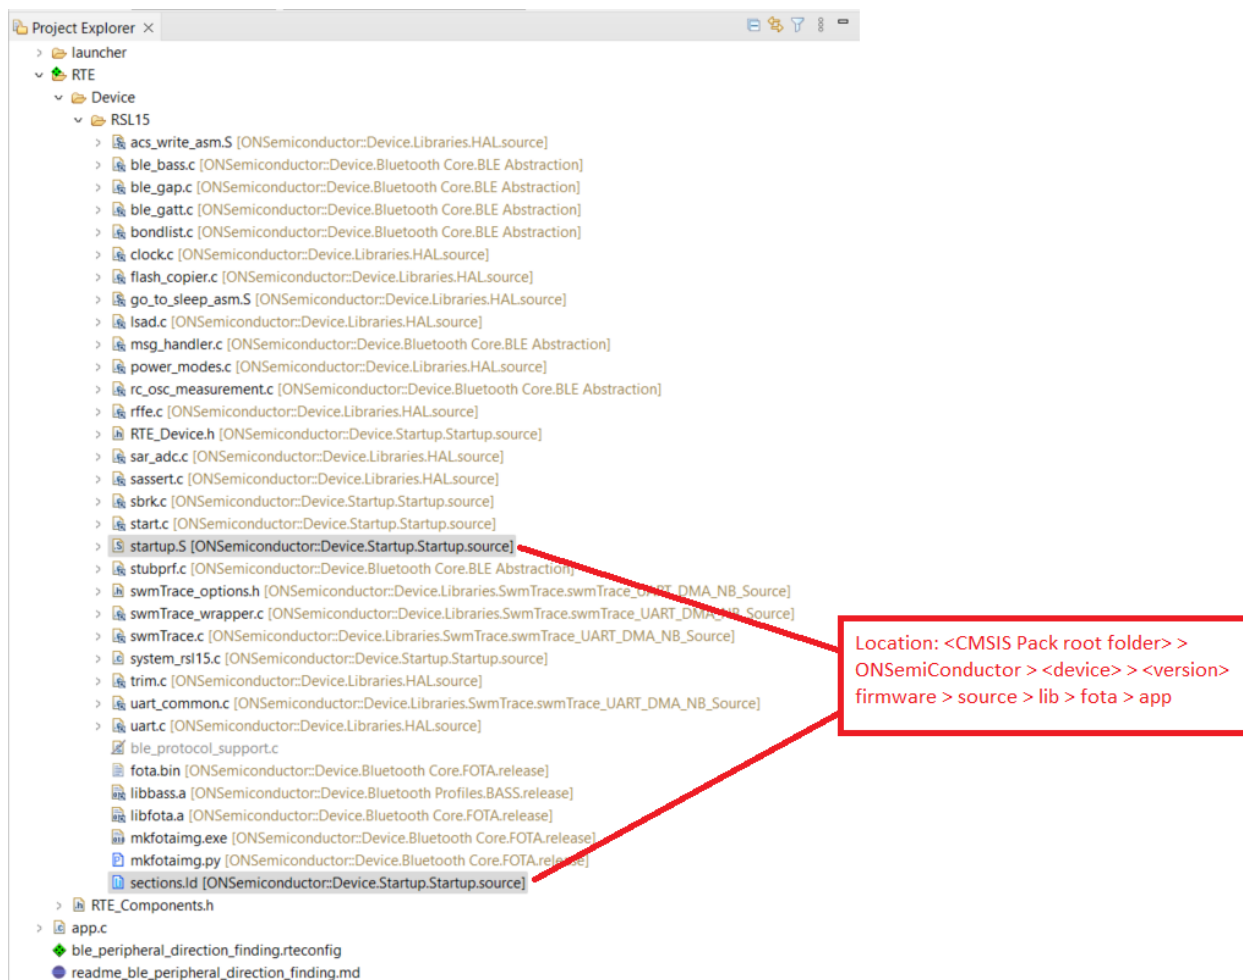

Figure 17. Replacing the sections.ld and startup.S Files
6. Replace your linker script `sections.ld` file with the one that contains the FOTA placement, and also replace your `startup.S` file, as shown in the figure "Replacing the sections.ld and startup.S Files" (Figure 17). The new linker script and `startup.S` file can be copied from *ble_peripheral_server_fota*, or directly from the CMSIS-Pack root folder as follows: